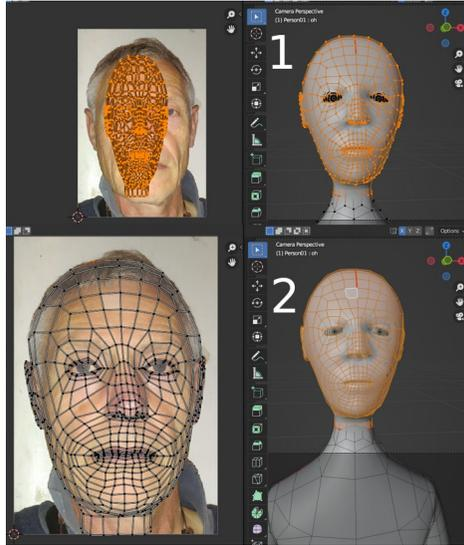

Figure 8-5 UV Projected from View
4. The UV map is unlikely to line up with the image in the UV Editor area, so you will need to ease it into position. To start with it will be rather a jumble as all the faces from the back are overlapping the ones from the front, as shown in Figure 8-5 stage 1. Start by scaling in the X and Y direction then use proportional editing with a linear fall off, large radius and Connected Only to nudge the UV map to line up reasonably well with the image.
5. You should aim to use only the part of each image and associated UV map, to paint the areas that are clear and undistorted on that image, so concentrate on getting those bits more accurate. Now you can gradually reduce the radius of the proportional editing and line up edges precisely, as in Figure 8-5 stage 2.